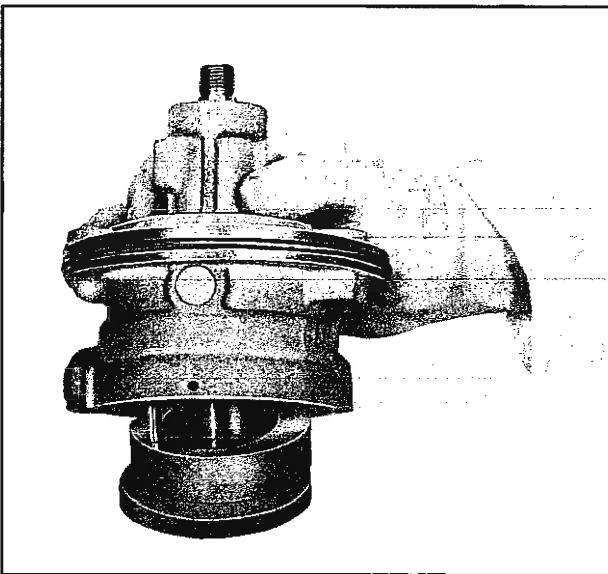

Fig. 9A-44 Pressure Plate and Rotor Ring Removed
level. If sticking should occur, a slight tapping action will free the plate (Fig. 9A-41).
8. With pump housing turned over, remove flow control valve and spring (Fig. 9A-42) and tap housing on wood block until pressure plate falls free (Fig. 9A-43).